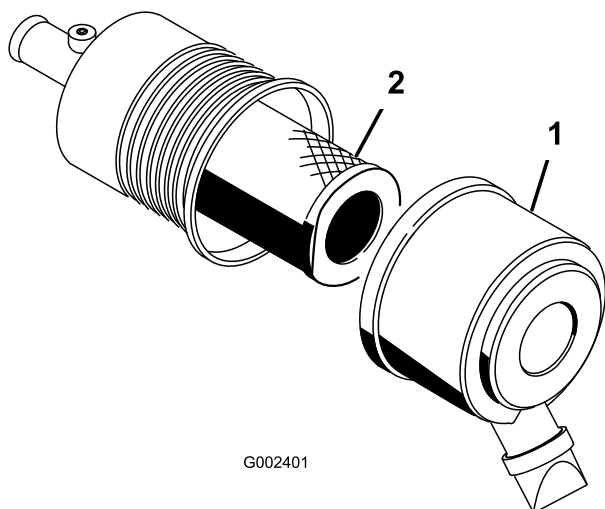

Figure 42
1. Release the latches on the air cleaner and pull the air-cleaner cover off the air-cleaner body (Figure 42).
3. Gently slide the primary filter out of the air-cleaner body (Figure 42).
6. If you are replacing the safety filter, carefully slide the new filter into the filter body (Figure 42).
7. Carefully slide the primary filter over the safety filter (Figure 42).
8. Install the air-cleaner cover with the side facing up, and secure the latches (Figure 42).